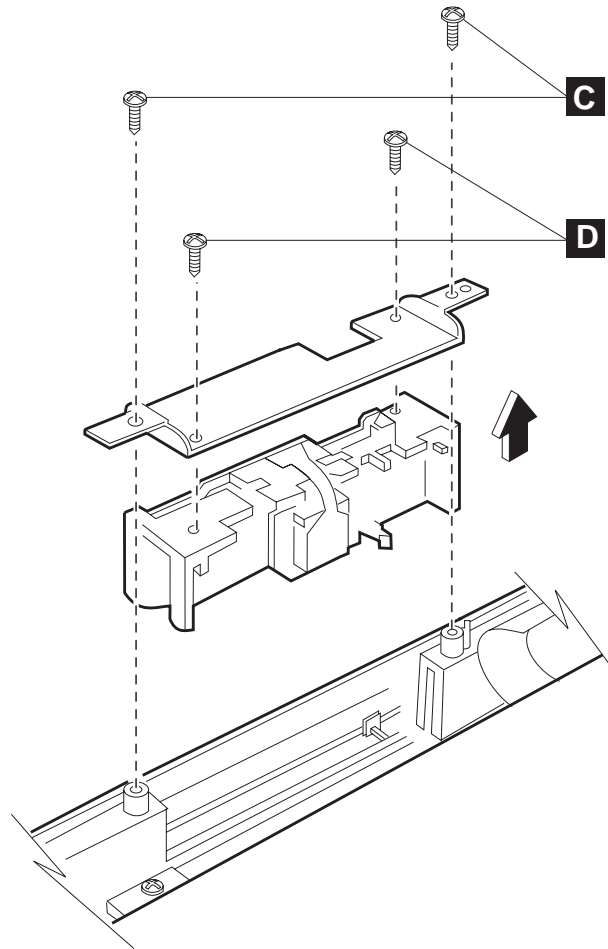

Figure 56. USB keyboard-V components – part 4
3. Remove the two screws (**C** in Figure 56 on page 57).
Note: Be careful to correctly orient the magnetic stripe reader unit (see Figure 56).